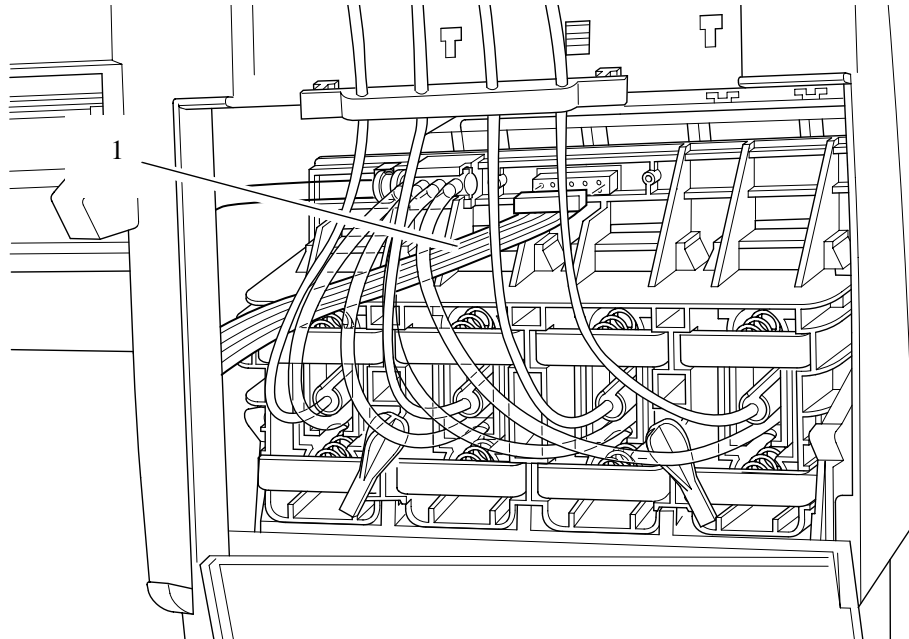

Figure 60: Ink Cartridge Tube Connector Cable
11. Disconnect the ink cartridge tube connector cable (item 1) (refer to Figure 60).